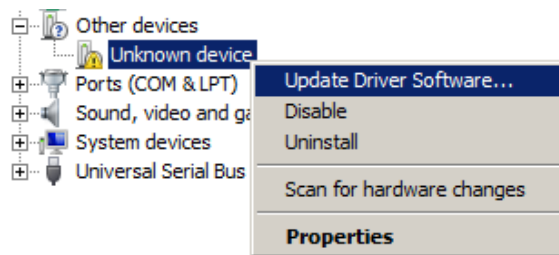

Figure 2: Right-click the unknown device listed in the Device Manager, and choose "Update Driver Software".
2. To install these drivers, open the **Device Manager** (e.g. by running `devmgmt.msc` from the Start- or Run-menu, or navigating to it through Computer-Properties). An unknown device should be listed, as seen in Figure 2. Right-click this device and choose "Update Driver Software...".